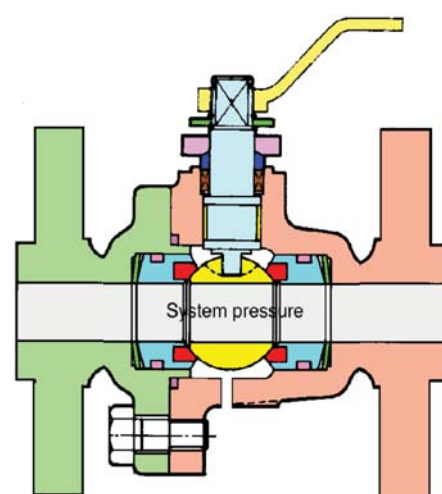
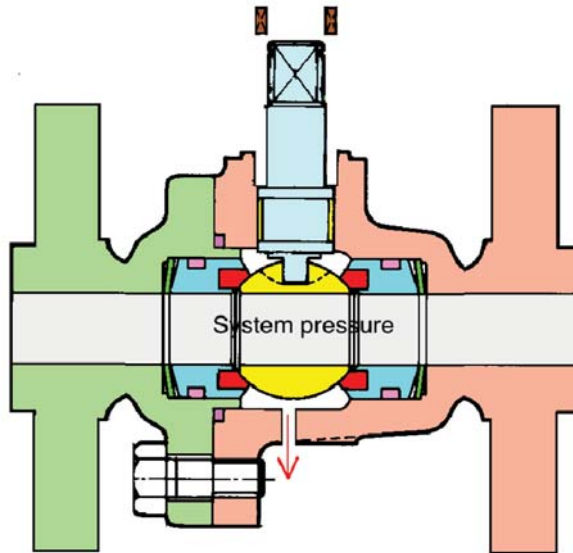

Figure 11.
Figure 12.
(SR) or double piston (DP) seats, as long as they are floating seats with radial seals. Illustrated in Fig. 11 the starting point is with the valve in its open position; in this case the ball must not be provided with a balance hole. If the ball is provided with a balance hole, the valve must be in the closed position. The level of the system pressure should be known, for instance 12 bars. Make sure that the valve cavity has been depressurized through the auxiliary valve and the seats have been tested by leaving the valve for 15 minutes without recording any leakage through the auxiliary valve at the bottom of the valve body. Then the lever, the press gland and the packing should be removed, as illustrated in Fig. 12. A new spindle packing should be fitted in, followed by the press gland and the lever. The spindle packing should be tightened according to the supplier's instructions. The cavity should then be slowly pressurized so as to test the new spindle packing up to its pressure limit.